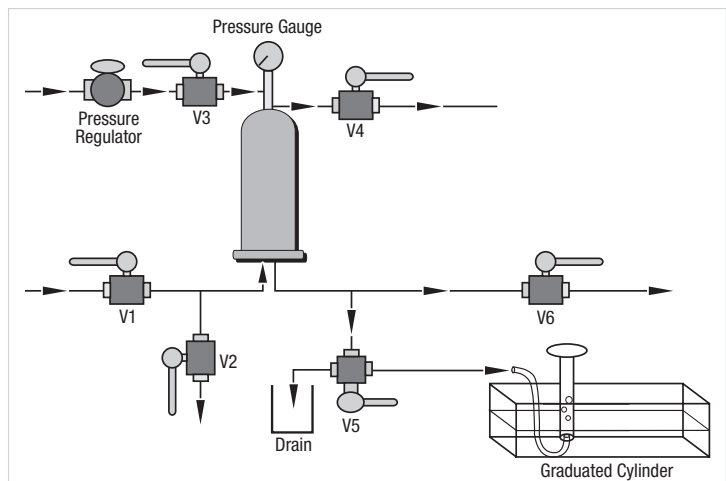

Figure 1. FFIT (manual method).
## 2. Procedure (Manual Testing — Figure 1)
- Configure the system as shown in Figure 1.